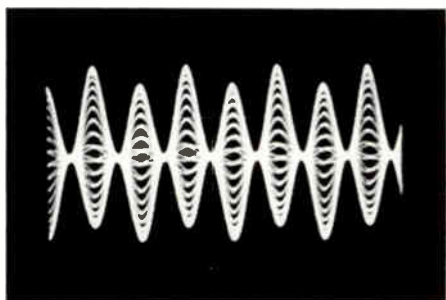
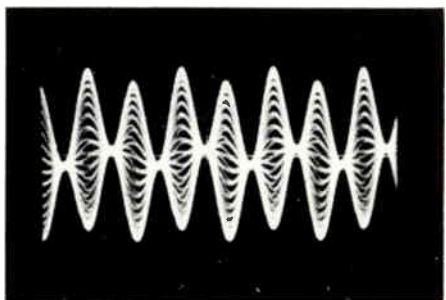
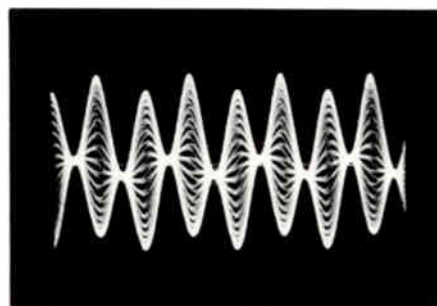

Figure 17. Pattern Obtained with FUNCTION Switch in "PHASE TEST" Position
Figure 18. Pattern Obtained with FUNCTION Switch in "LEFT" Position
Figure 19. Pattern Obtained with FUNCTION Switch in "RIGHT" Position
1. Set the Simulator FUNCTION switch to the PHASE TEST position. Connect a lead from pin #1 of V-2 to the Sync input of the oscilloscope. Connect another lead from the oscilloscope ground to the chassis of the WR-51A. Set the oscilloscope horizontal selector switch to external sync, (and the sweep rate to the "10K-100K" range.) Adjust the horizontal gain for approximately a 3-inch horizontal trace. Set the vertical gain and sweep control to obtain a trace as shown in Figure 17.
2. Turn the FUNCTION switch first to "LEFT" and then to "RIGHT" and compare these traces with Figure 17, Figure 18, and Figure 19. These traces indicate proper operation of the balanced modulator and proper signal phasing in the "LEFT", "RIGHT", and "PHASE TEST" function of the instrument.